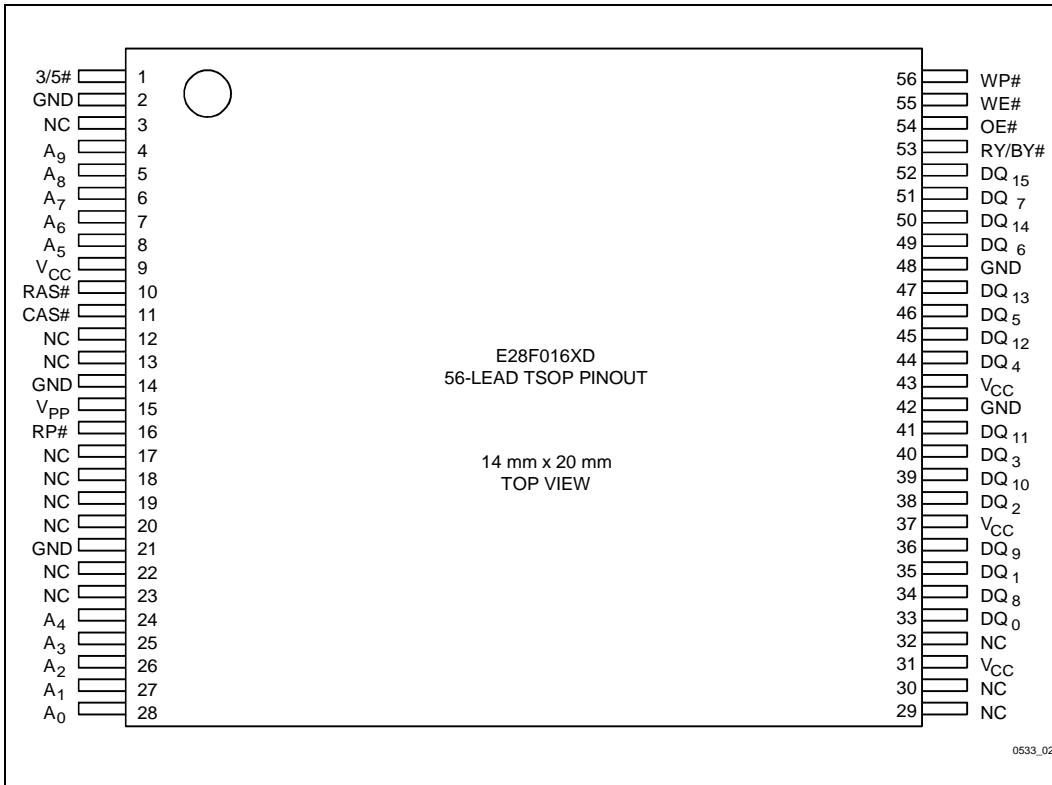

Figure 2. 28F016XD 56-Lead TSOP Type I Pinout Configuration
-003	<p>Added 3/5# pin to Pinout Configuration (Figure 2), Product Overview (Section 1.1) and Lead Descriptions (Section 2.1)  Modified Block Diagram (Figure 1): Removed Address/Data Queues, Page Buffers, and Address Counter; Added 3/5# pin  Added 3/5# pin to Test Conditions of ICC2 and ICC5 Specifications  Modified Power-Up and Reset Timings (Section 5.9) to include 3/5# pin: Removed t5VPH and t3VPH specifications; Added tPLYL, tPLYH, tYLPH, and tYHPH specifications  Corrected TSOP Mechanical Specification A1 from 0.50 mm to 0.050 mm (Section 6.0)  Minor cosmetic changes throughout document.</p>
In addition, a significant 28F016XD change occurred between datasheet revisions 290532-002 and 290532-003. This change centers around the addition of a 3/5# pin to the device's pinout configuration. Figure 2 shows the 3/5# pin assignment for the TSOP Type 1 package.
The 28F016XD 56-Lead TSOP Type I pinout configuration is shown in Figure 2.